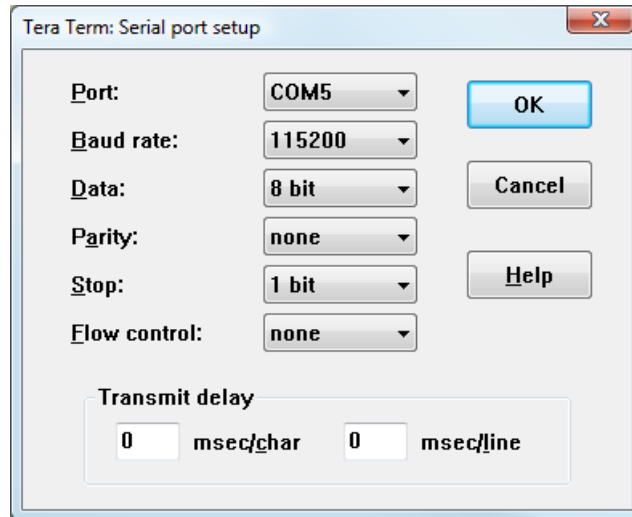

Figure 37 Serial port setup in TeraTerm
2. Configure the port to use a baud rate of **115200**, 8-bit data, no parity, 1 stop bit and no flow control, see Figure 37. Also choose the COM port that is associated with your development board.